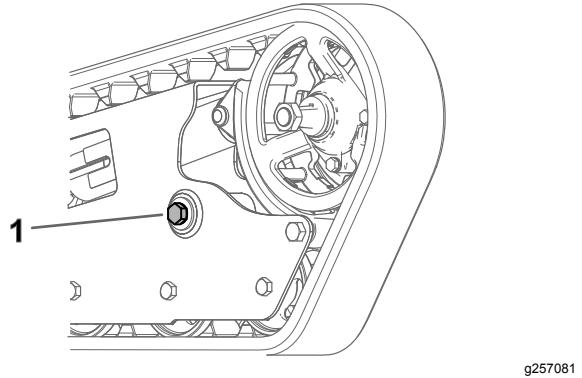

Figure 6
- Loosen the rear bolt securing the rear track frame to the machine (Figure 6).